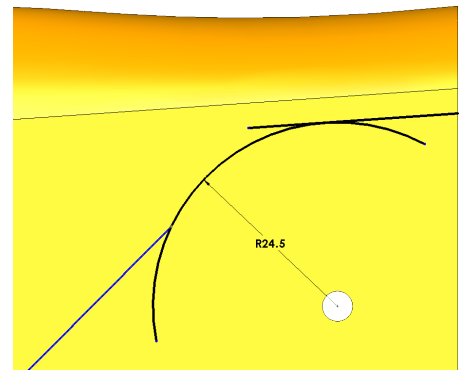

Fig. 96
Step 18. Dimensions the distance across the bottom **57.5** as shown in **Fig. 96**.